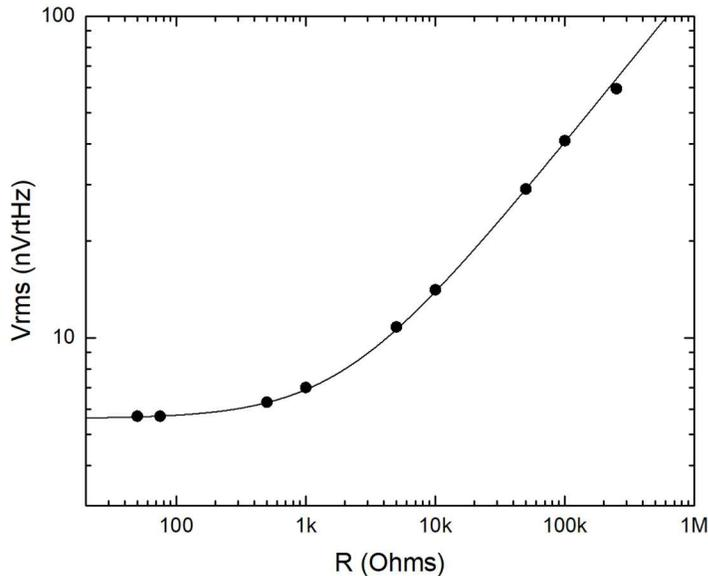

Figure 17. A measurement of resistor thermal noise using the SR770. The line shows a one-parameter fit of resistor noise along with an instrument noise floor.
**Exercise 15.** Now that you are set up, repeat the noise measurement with all the BNC terminators in the box, up to 250kΩ. Plot your data and you should see something like what you see in Figure 17. Add a theory curve, remembering that the resistor noise and the SR770 will add in quadrature. If you choose a suitable SR770 noise floor, your one-parameter theory curve should fit the data quite well. Once again, if your theory curve does not go through the data like in Figure 17, it may be because you hit the “fit” button and expected this to produce a good fit. Curve fitting routines often do not work well with log-log plots like Figure 17. Better to use a “chi-by-eye” fit (or at least start with that).